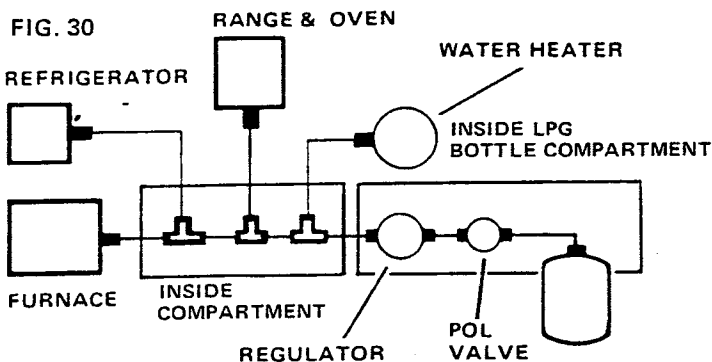
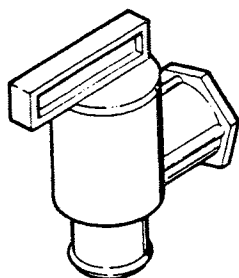

FIG. 30
FIG. 31
**Gas Line Checking Procedure** — Turn off the range burners. Extinguish the oven, water heater, refrigerator and furnace pilot lights. Open all windows, roof vents and door to allow the LPG to dissipate. Turn on the POL valve (FIG. 30 A or B). Apply soapy water solution to all the LPG line connections (FIG. 31). Bubbles indicate source of leak. Tighten connections with two open end wrenches until bubbles stop. If the garlic odor persists after all joints have been checked and tightened, contact your Coachmen Dealer.
Open the water tank drain cock (FIG. 31). This device is attached directly to the water tank. After the tank is empty, close the cock. Mix 3 gal. (11 L) of water with  $\frac{3}{4}$  cup of Clorox or Purex household bleach. Pour solution into the tank through the water fill spout (FIG. 10). Wait 3 hours. Drain and flush the tank with fresh, potable water. If chlorine taste lingers, pour 1 qt. (.9 L) of vinegar and 5 gal. (19 L) of water into the tank. Wait several days before draining tank. Flush tank with fresh, potable water.
**PORTA-POTTI SAFARI** — Pour 1 gal. (4L) of non-toxic plastic pipe anti-freeze and 1 gal. (4L) of fresh water through the toilet's large cap (FIG. 30).